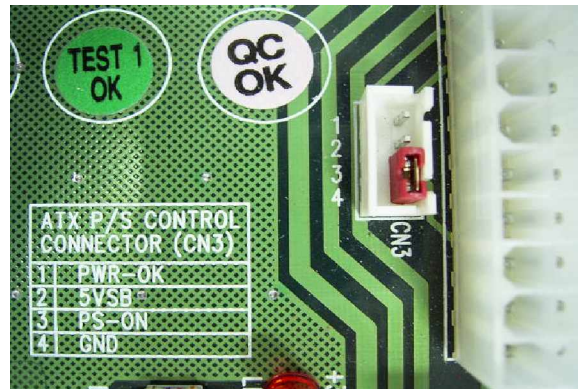

Figure 5-7
Step 1: If you were currently using ATX mode, please remove 4 pins power cable, and then put a jumper back on pin 3 (PS-ON) and pin 4 (GND) of Backplane ATX P/S control connector. (Figure 5-7)